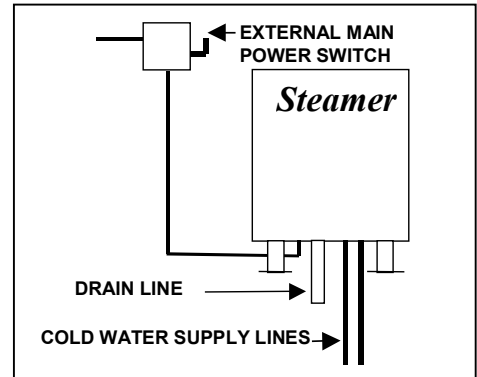

Figure 3-1 External Main Power Switch
- (1) Check that the water supply valves to the steamer are open.
- (2) Turn the steamers ON/OFF Switch to the OFF position. The TIMED/MANUAL switch and timer settings are not important in this procedure. The control panel circuits are not powered while the ON/OFF switch is set to OFF.
- (3) Refer to the external main power switch in Figure 3-1, and turn ON electric power to the steamer. The steam generator(s) will immediately start blowdown cycles. The blowdown cycle lasts 3 minutes